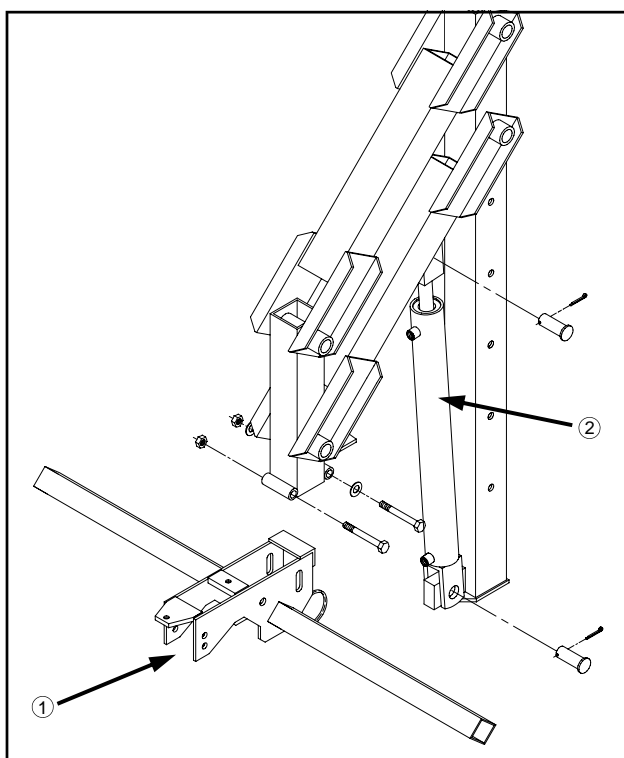

FIG 3.11
3. Attach the lift arm cylinders to the lift arm assemblies (fig. 3.11, item 2).
4. Attach the tool bar weldment to the lift arm assemblies (fig. 3.11, item 1).